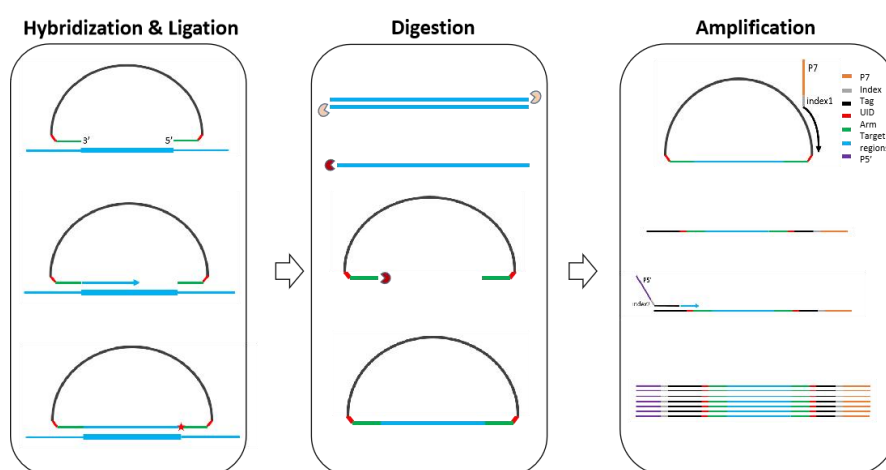

Figure 1 Principle of library construction (HANDLE system)
The test kit is based on the Halo-shape ANnealing and Defer-Ligation Enrichment (HANDLE) system technology to capture the target gene region (Figure 1). The unique molecular identifier (UID) is introduced to both ends of each DNA fragment to trace back to original template for error correction. The library construction time of HANDLE system is 5 hours with 1 hour hands-on time. After quality control (QC), the prepared DNA libraries are sequenced on Illumina sequencing platforms to detect the *BRCA1/2* gene mutations and HRD status.